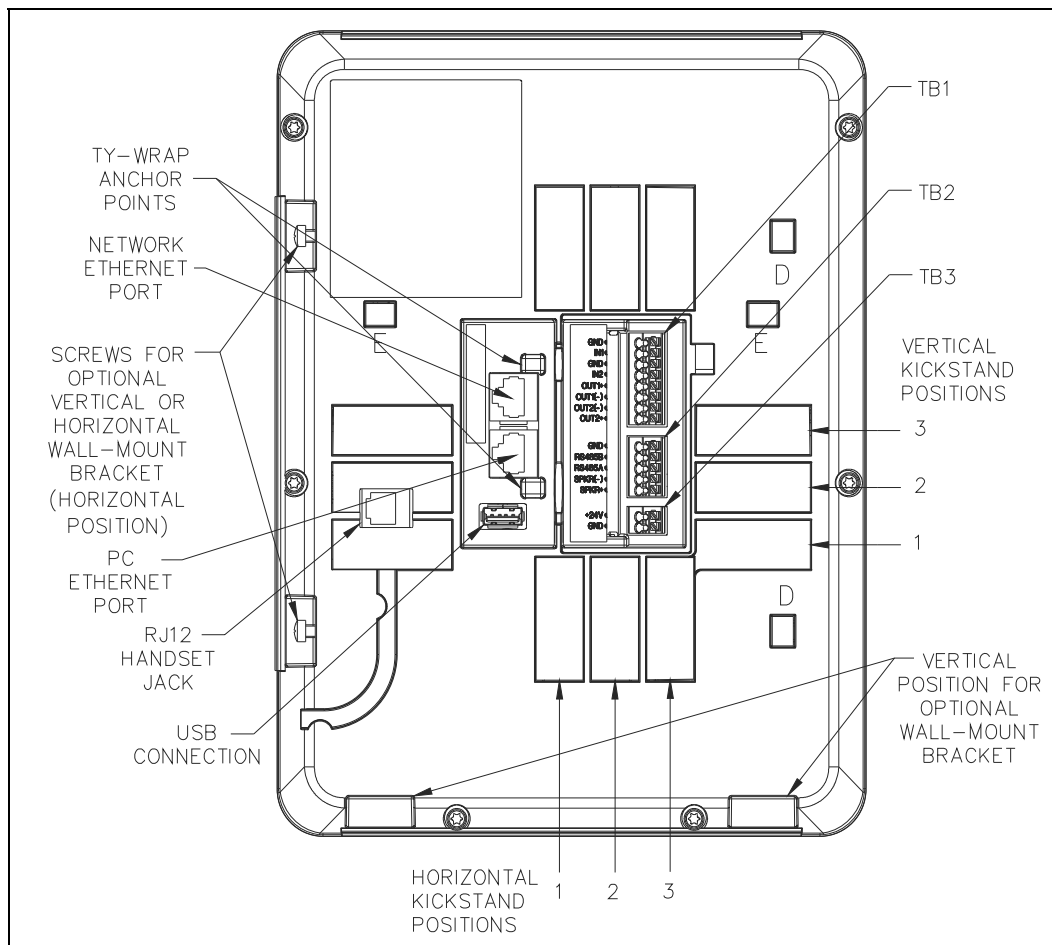

Figure 4. HUBBCOM APLite—Rear View
The kickstand provides four positions in both orientations to suit the situation where it is used (see Table 1 and Figure 4).
2. Insert one side of the kickstand, with the flange properly oriented, into the desired position in the rear cutout (see Figure 4).
5. Remove the two #8 × ½-inch mounting bracket screws from the bottom of the rear panel and set aside (see Figure 4).
7. With the proper orientation for the unit's configuration, angle the unit to hook it onto the top flange brackets (D-D or E-E, see Figure 4), then rotate and slide it downward until it rests on the mounting bracket.
7. Remove the two #8 × ½-inch mounting bracket screws from the bottom of the rear panel and set aside (see Figure 4).
9. With the proper orientation for the unit's configuration, angle the unit to hook it onto the top flange brackets (D-D or E-E, see Figure 4), then rotate and slide it downward until it rests on the mounting bracket.
HUBBCOM APLites have dual Ethernet ports. Use the RJ45 jack furthest from the USB port to connect to the Ethernet network. The RJ45 jack closest to the USB port can be used to connect a PC (see Figure 4).
2. (Optional) Plug an Ethernet cable from a PC into the remaining RJ45 jack(see Figure 4).